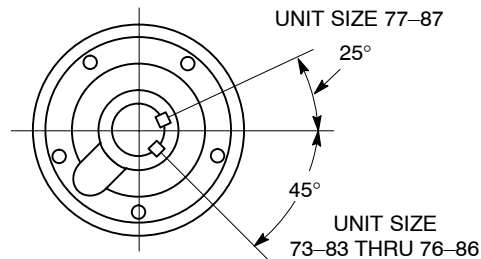

FIGURE 3 – UNIT SIZES 3 THRU 7
3.3 TRIPLE REDUCTION – INTERMEDIATE SHAFT (315) REMOVAL
- a . Remove the high speed head (30).
When removing and replacing the high speed head (30), rotate the high speed shaft (310) so that the key is in the relative position shown in Figure 3. This position allows the oil slinger (306) to clear the high speed gear (312) without damage.